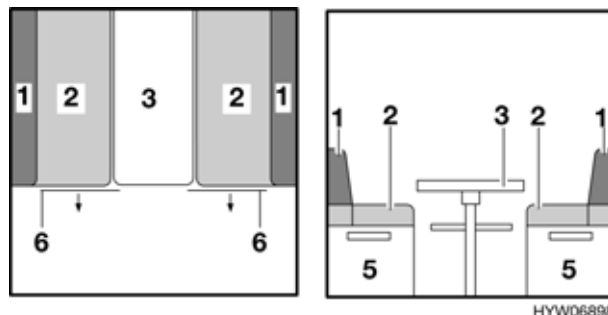

Fig. 73 Prior to conversion
- Slightly lift the front of the table-top (Fig. 73,3).